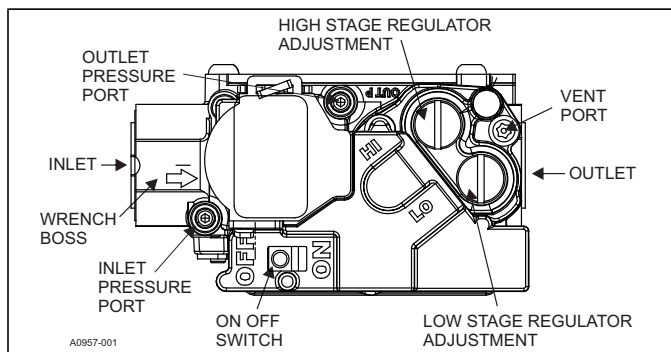

FIGURE 39: Gas Valve
Inlet and manifold gas pressure may be measured by connecting the "U" tube manometer to the gas valve with a piece of tubing. Follow the appropriate section in the instructions below. Refer to Figure 39 for the locations of the pressure ports on the gas valve.
Connect the positive side of the manometer to the OUT P Tap on the gas valve. Do not connect any tubing to the negative side of the manometer, as it will reference atmospheric pressure. Refer to Figures 39 and 40 for connection details.
This gas valve has separate regulator adjustment screws for high fire and low fire, as shown in Figure 39. The procedure below is used to adjust either the high fire manifold pressure or the low fire manifold pressure.
1. Refer to Figure 39 for location of pressure regulator adjustment cap and adjustment screws on main gas valve.
3. Place jumper wire from W1 to W2 to R on the furnace control board for the furnace to operate HIGH fire. Once correct manifold pressure is set (HI), remove jumper from W2 for the furnace to operate on low fire. Set the manifold pressure (LO) to correct manifold pressure.